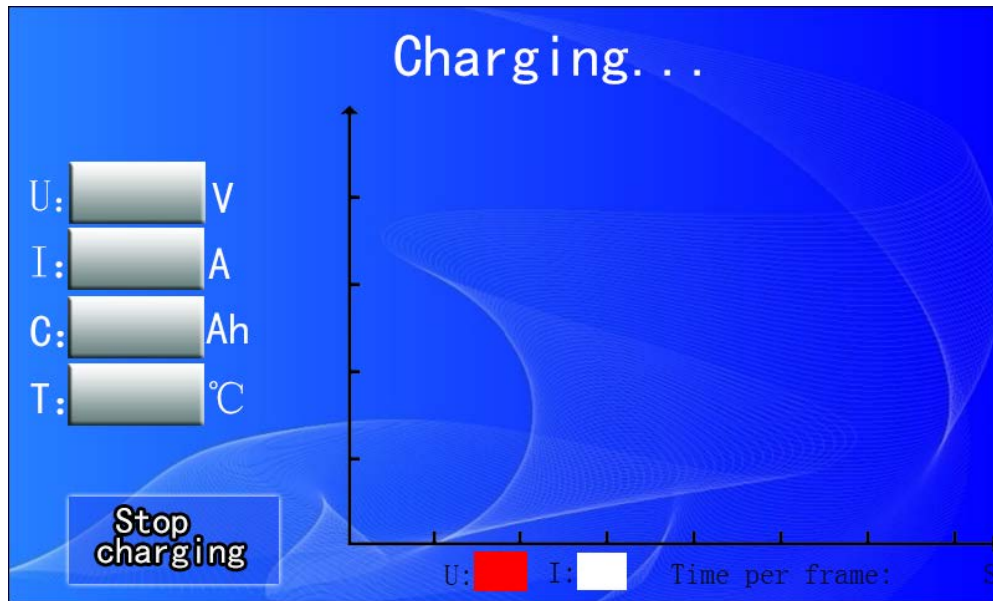

Figure 7 – Real-time data display interface
② If there are no errors with the input parameters, the system will display real-time data and a curve graphics interface when charging as shown in figure 7: